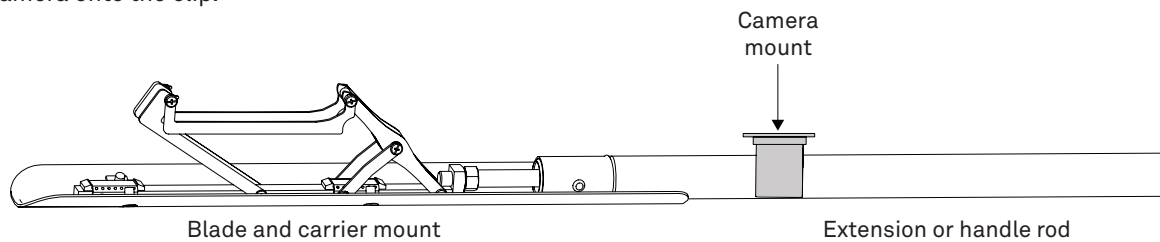

Figure 10 Mounted camera clip
1. Mount the camera clip on the lower end of the rod right above the blade (Figure 10).